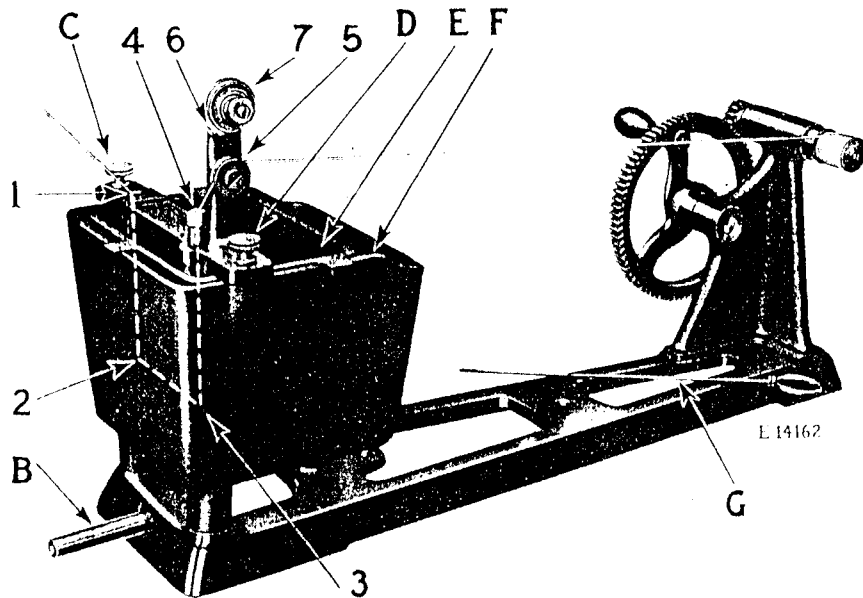

Fig. 4. Winding the Bobbin
Place the bobbin winder on the table or bench in a position convenient for the operator, and fasten it with two screws, two countersunk holes having been made in the base for this purpose. A connection with the gas supply should then be made by means of a rubber hose to the gas pipe (B, Fig.4, page 6).
Remove the two thumb screws (C and D, Fig.4, page 6) which hold the stripping device into the wax pot (E, Fig.4, page 6) and lift out the stripping device. Pass the thread from the unwinder downward through the hole (1, Fig.4, page 6), then through the hole at the end of the thread post (2, Fig.4, page 6), through the hole at the end of the thread post (3, Fig.4, page 6), then draw the thread upward through the hole (4, Fig.4, page 6), using the thread hook (G, Fig.4, page 6) which is furnished with the bobbin winder, then place the stripping device back in position in the wax pot and fasten it with the two thumb screws (C and D, Fig.4).
Pass the thread over the roller (5, Fig.4, page 6) and through
should be led directly from the unwinder through eyelet (6, Fig. 4), then between tension discs (7, Fig. 4) and, from the inside, through the hole in the left side of the bobbin.
There are two compartments in the wax pot, the compartment (E, Fig. 4) being for wax, and the compartment (F, Fig. 4) being for water. The wax compartment should contain sufficient wax to fully cover the eyelets in thread posts (2 and 3, Fig. 4). The water compartment (F) should be about three-fourths full of water. Then light the burner.